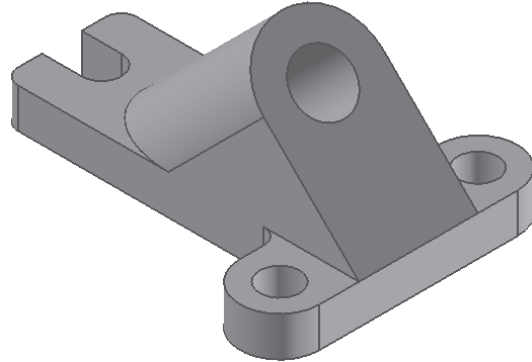

Figure 4-65 Final model for Tutorial 1
- Draw the sketch for the hole on the inclined face of the second feature and then extrude it using the **Subtract** boolean operation to create the hole, refer to Figure 4-65.
5. Choose **OK** to exit the dialog box and create the feature. Hide the sketch of the circle and then choose the **Fit** button to fit the model on the screen. The final model for this tutorial is shown in Figure 4-65.